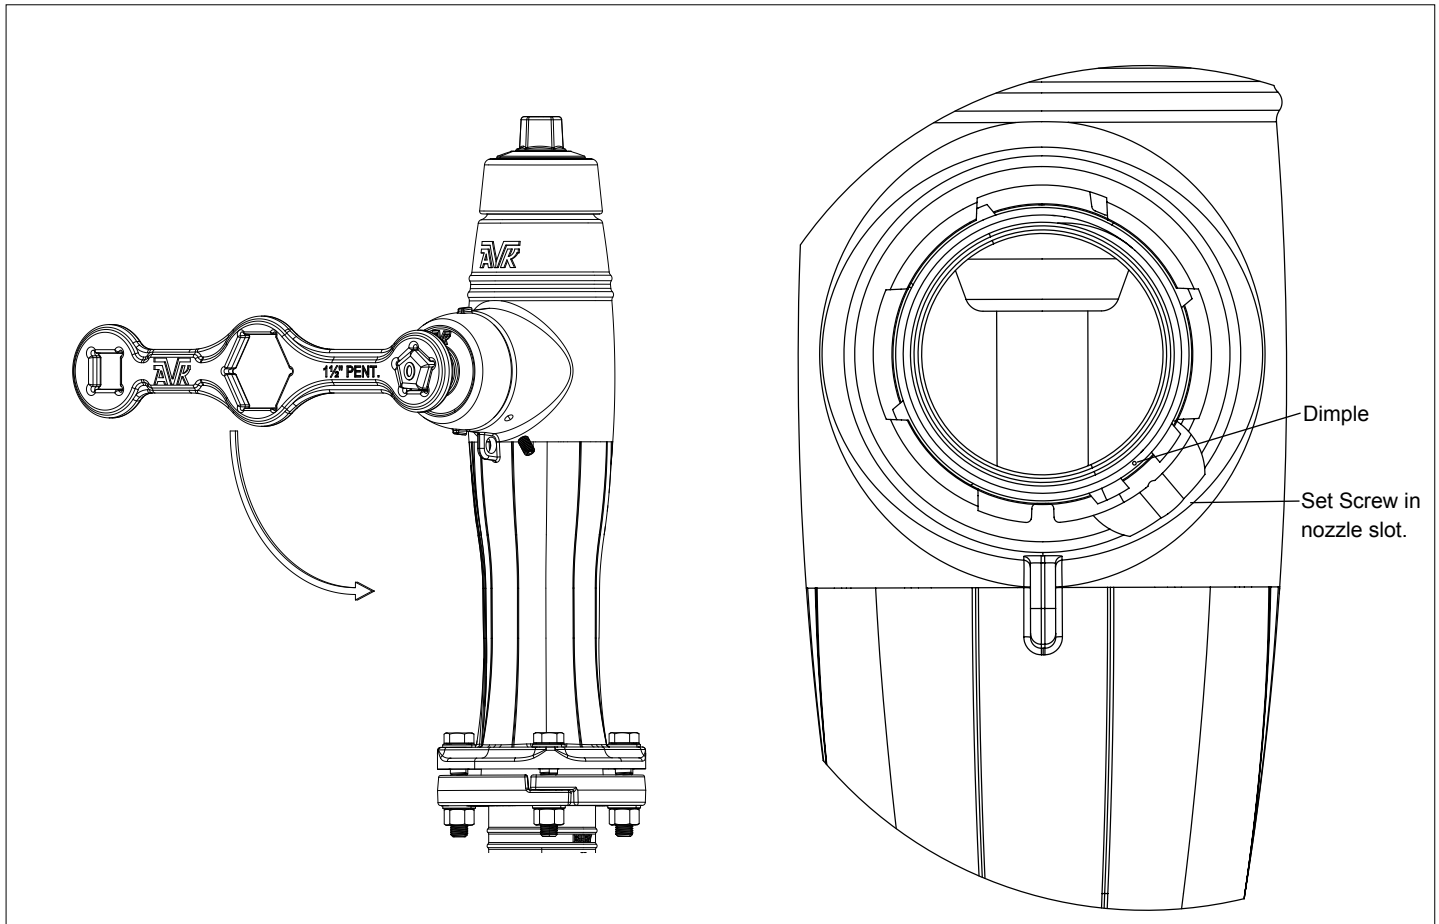

Fig. 4
2. Locate the Set Screw (F23) hole. It is located approximately $\frac{1}{2}$ " in from the edge of the nozzle section and at about the 4:30 to 5:00 o'clock position. If this retaining screw is missing, ensure that the nozzle is correctly installed as shown in Fig. 4, then immediately replace it (F23-Set screw, M10 x 16 304 stainless steel) with a 5mm or $\frac{3}{16}$ " hexagon key.
3. There should be a small "dimple" or punch mark on the hose nozzle (F20), this mark should be in alignment with the nozzle retaining screw as shown in Fig. 4. If it isn't, remove the setscrew (F23), rotate the nozzle until the alignment is correct. Apply a drop of thread-locker (Loctite #242 or equal) to the end of the setscrew, tighten it until it contacts the nozzle, and back off $\frac{1}{8}$ th of a turn. Replace the hose nozzle cap (F19).